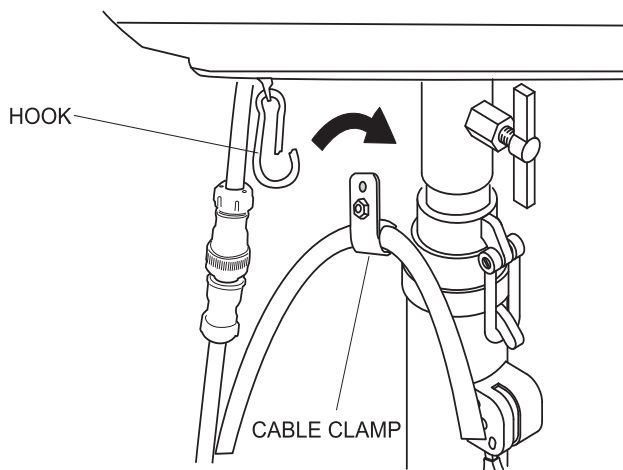

Figure 30. Cable Clamp
1. Remove cable clamp from the hook located under the balloon (Figure 30).